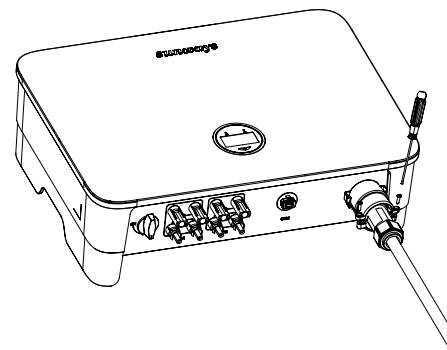

Figure 4-20 AC connector protection cover
3. Isolate AC connector buckle from manually pulling out by assembling AC connector protection cover. Wrap the AC buckle with protection cover and fix it tightly with screw delivered with protection cover. As shown in figure 4-20.